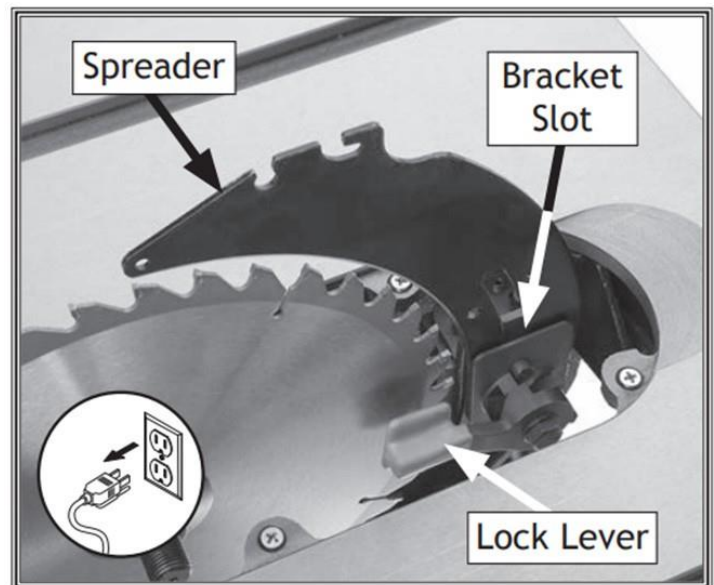

Figure 35: The spreader lock lever.
- 4 - Insert the spreader lower set of holes into the bracket slot as shown in figure 35. Tighten the lock lever to secure the knife in place. Note: DO NOT insert upper set of holes into the bracket slot. This is an incorrect installation of the spreader that will result in improper installation of the guard.